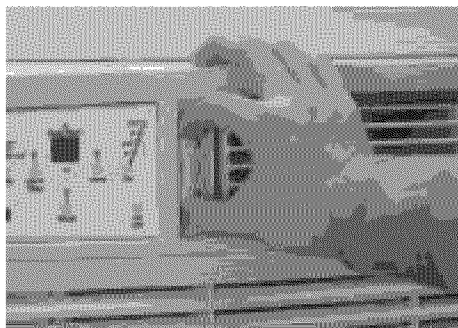

Figure 1 (OFF)
1. Recirculate inside air - Vent Closed (see Fig. 1)